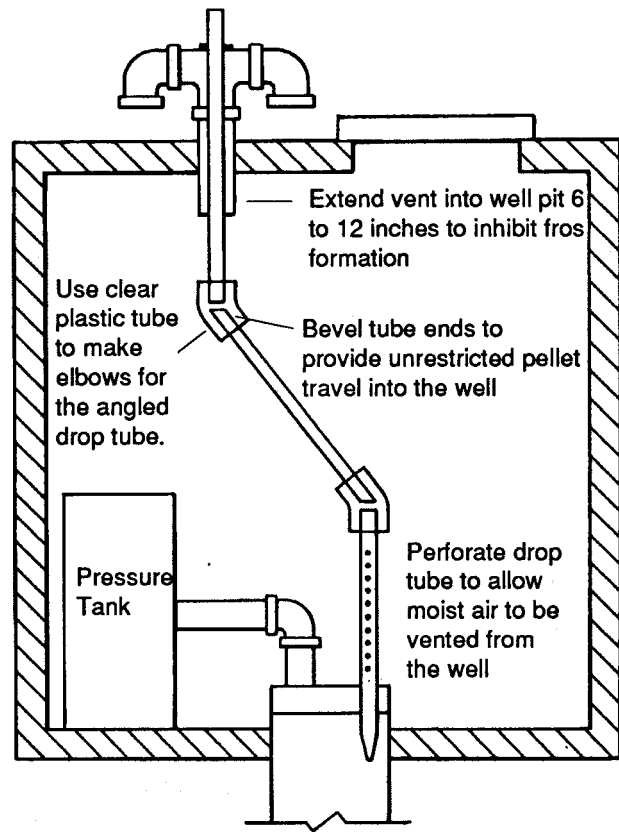

Figure 14
1. Construct a well vent from two 1-1/2-inch PVC elbows, 1-1/2-inch PVC tee and 1-1/2-inch PVC pipe. Drill a 1-1/4-inch hole in the top of the tee to accommodate a grommet and a 3/4-inch CPVC pellet drop tube. The vent assembly should extend 6 to 12 inches through the cover of the well pit to inhibit blockage from frost in cold weather. Refer to Figure 14.